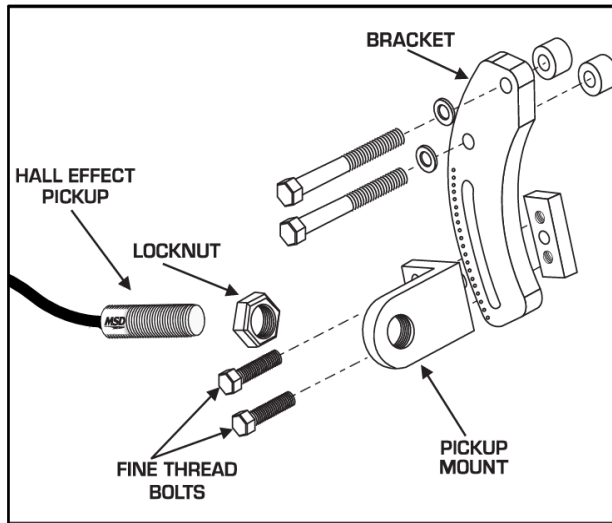

Figure 1: Pickup Bracket Assembly
1. Mount the pickup holder onto the bracket using the two fine thread bolts. **(Figure 1)** The pickup base will only install one way, do not try to force the bolts in, and hand tighten the bolts.